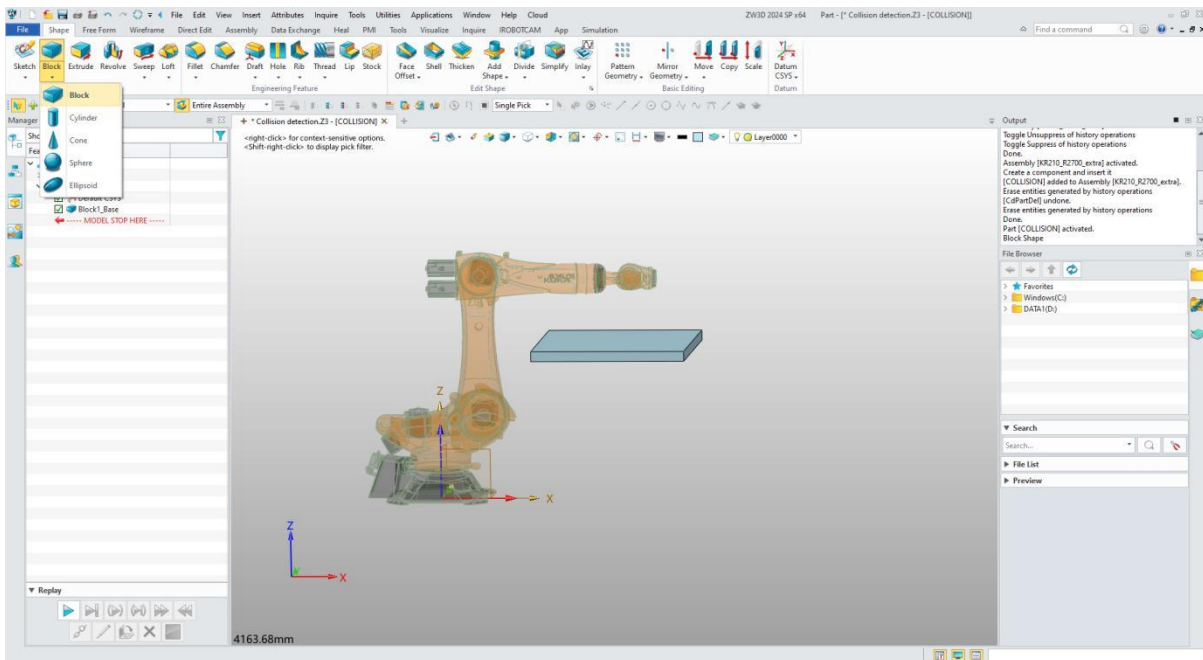

Figure 11-8: Insert Hexahedron
- ✧ Click the “Checkmark” button to finish creating the hexahedron. (Figure 11-8)